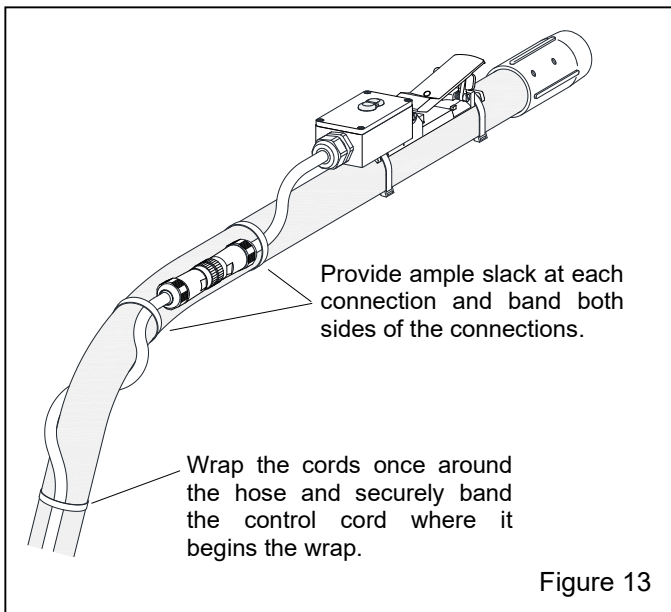

Figure 13
2.5.2.3 Connect the control cord to the RLX whip cord and wrap the cords once loosely around the blast hose, as shown in Figure 13.
2.5.2.4 Band the cord to the blast hose on both sides of the cord connections, as shown in Figure 13.